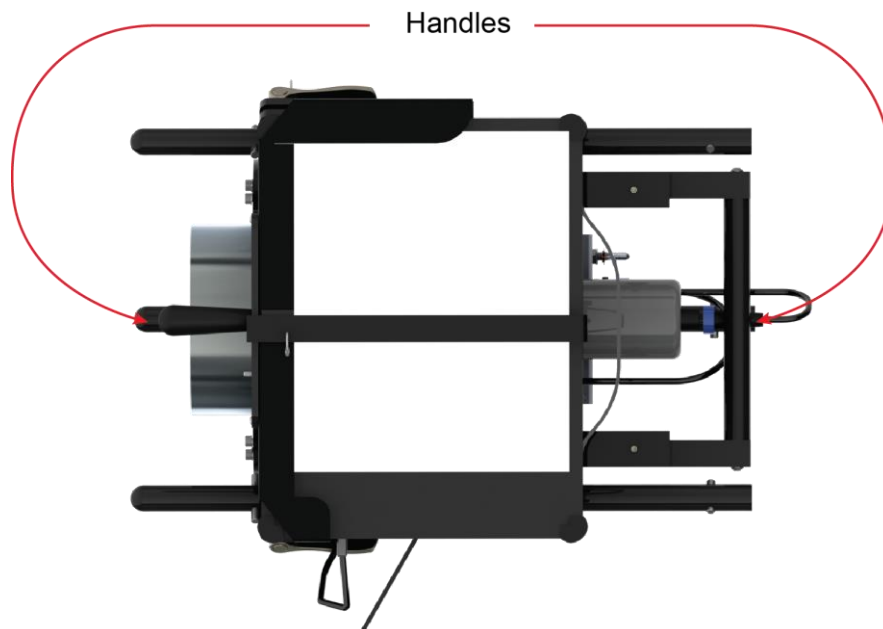

Figure 2. Handle locations.
1. Open the shipping container and remove the Velcro hold-down strap. Grasp both handles (Figure 2) and lift the unit straight out.